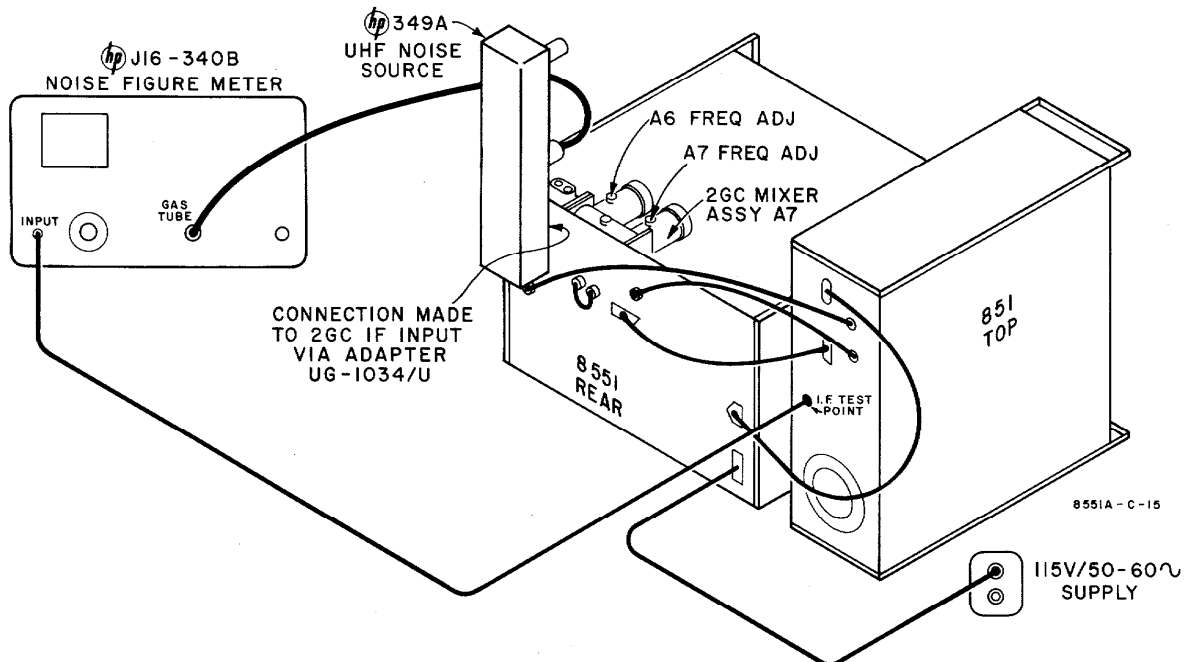
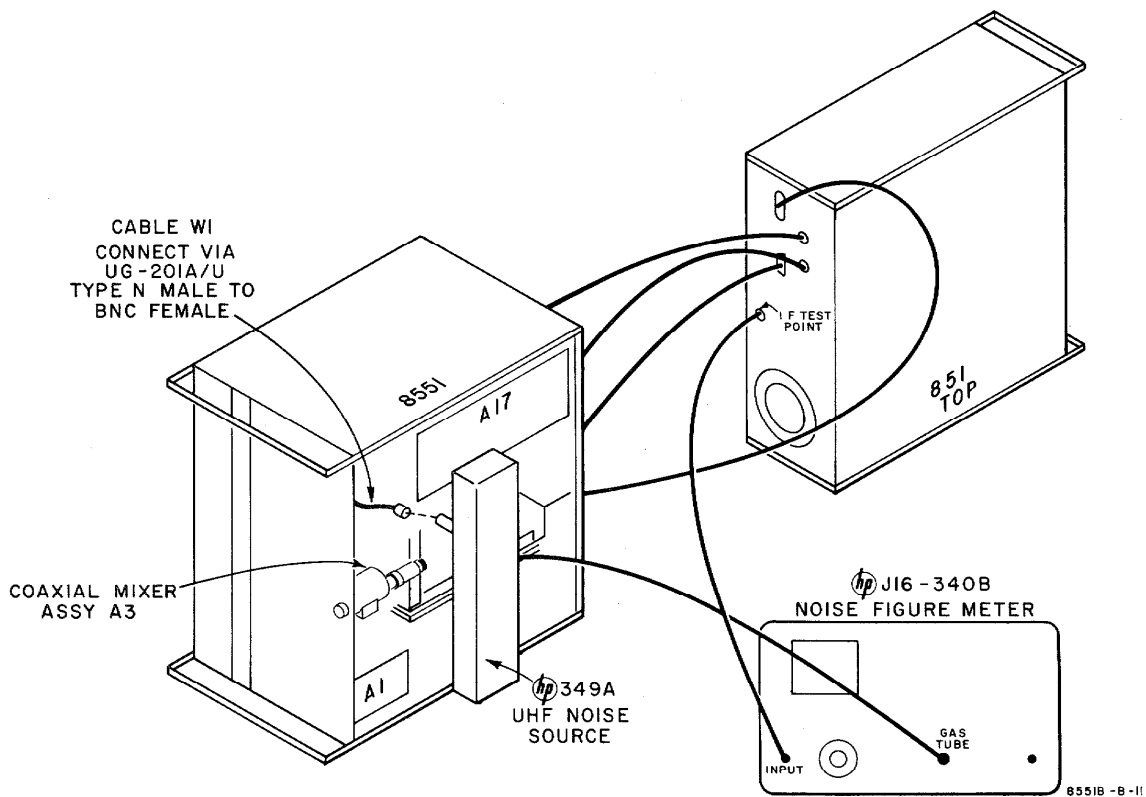
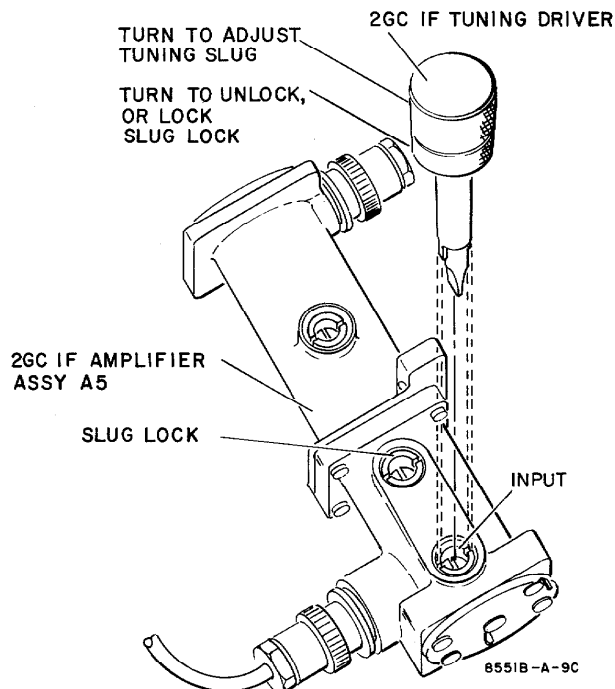

Figure 5-11. Setup, 2GC Mixer A7 Noise Figure Measurement
Figure 5-12. Setup, 2GC IF Amplifier A5 Noise Figure Measurement
Figure 5-13. Using 2GC IF Tuning Driver
g. Tune A6 FREQ ADJ (Figure 5-11) for maximum milliammeter reading.
a. Setup. See Figure 5-11.
- (1) Connect 349A UHF Noise Source to J16-340B Noise Figure Meter.
- b. Disconnect Cable W1 from connector J14 on Coaxial Mixer Assembly A3 (see Figure 5-12).
- d. Measure noise figure (see Paragraph 5-90b, steps (1), (2)). (Noise figure should be < 13 dB.)
- e. If noise figure is more than 13 dB, tune the A, B and C FREQ ADJ tuning slugs. Use a 2 Gc IF Tuning Driver, and work from left to right, with FREQ ADJA (see Figure 6-4) considered as the adjust farthest left. Figure 5-13 shows how to use the 2 Gc IF driver. Unlock the slug lock, adjust each tuning slug for minimum noise-figure indication on the noise figure meter, and lock each FREQ ADJ tuning slug as it is tuned. Repeat the tuning a second time for optimum results. (Noise figure should be \leq 13 dB.)
b. Tune A7 FREQ ADJ (Figure 5-11) and all three A5 frequency adjustments (starting with FREQ ADJ A - see Figure 5-13) for maximum signal amplitude on CRT. Use a crowfoot wrench with a well insulated handle to loosen the hex nut on A7.